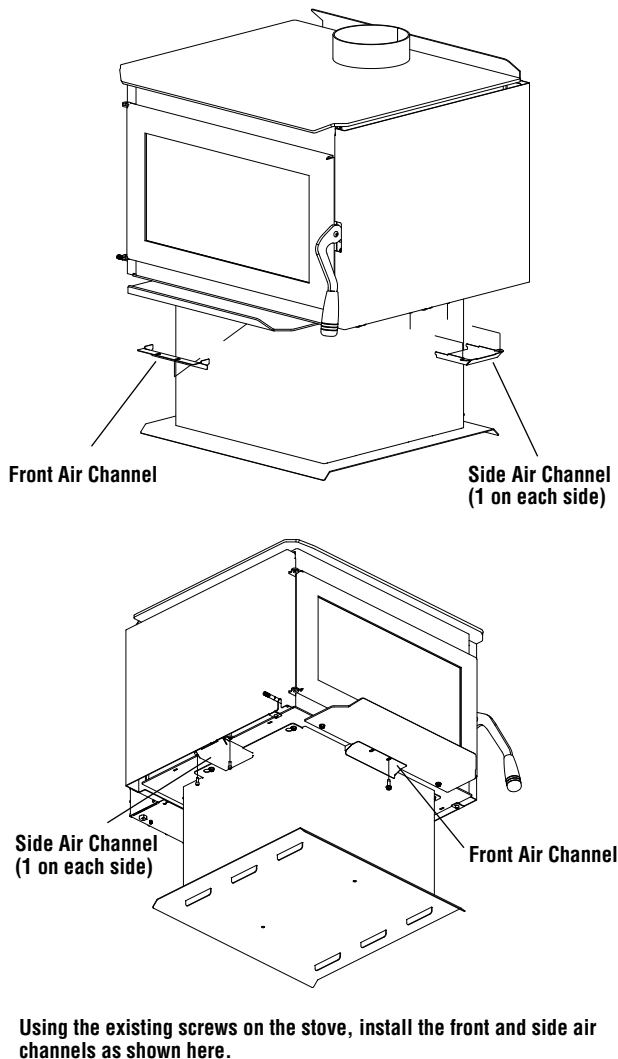

Figure 14 - Install Front and Side Air Channels
4. **Install Front and Side Air Channels** - Install the front and side air channels per the instructions in **Figure 14** on **Page 13**.